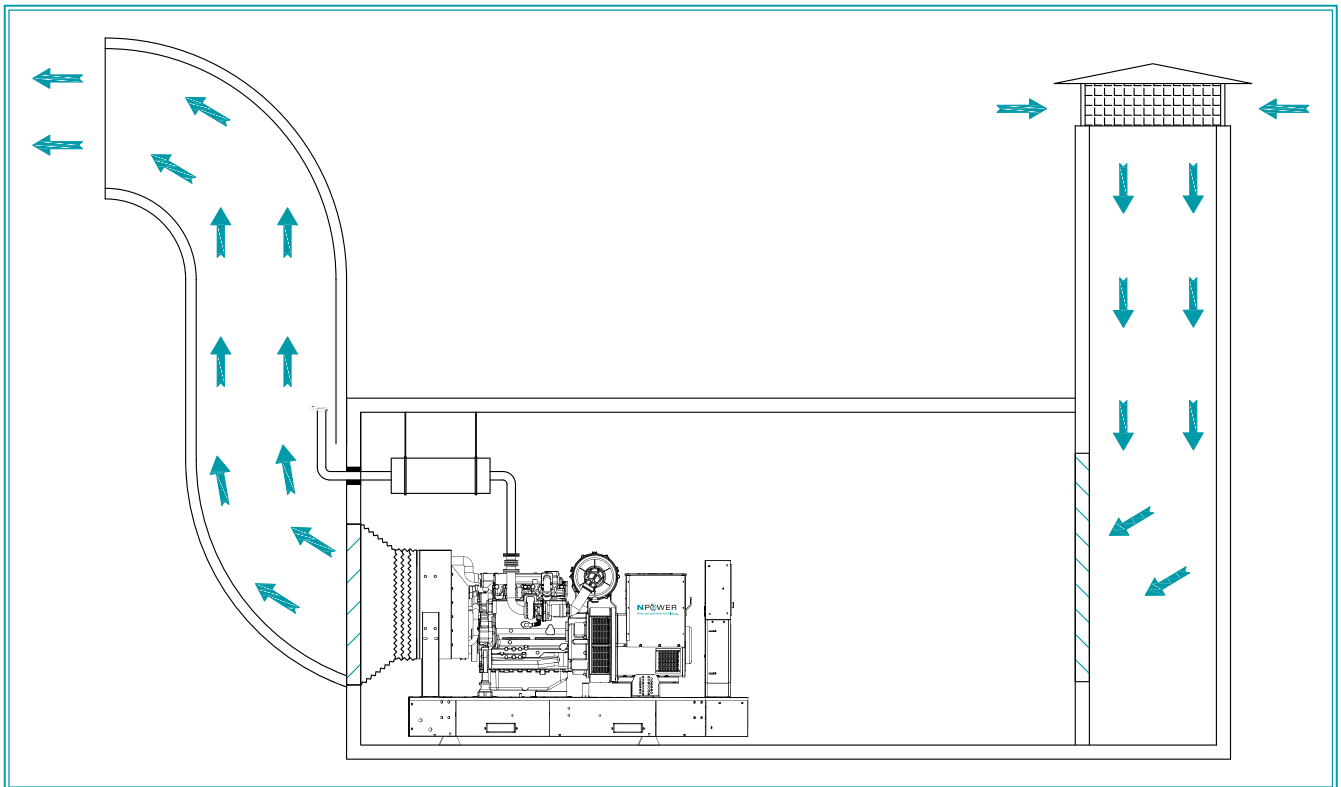

Figure-9 Basement installation plan of a typical generator set
- If the generator shall be placed outdoors, it shall be placed inside a cabinet or a room. Also, using a cabinet shall be beneficial if the generator shall be operated indoors or outdoors temporarily. Basement installation plan of a typical generator set is given in Figure-9.